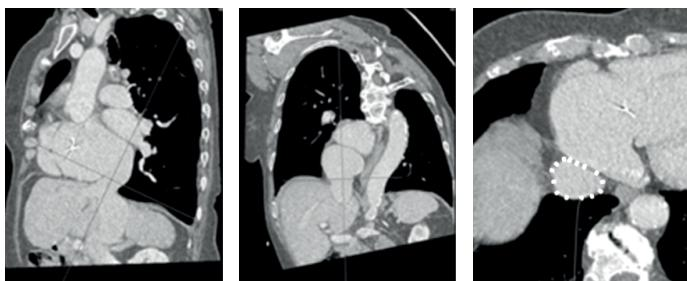

Figure 9: Adjust planes
- Put the center of line's intersection at the interest point. Repeat for the 3 planes presented in 3D MPR screen (Figure 9).